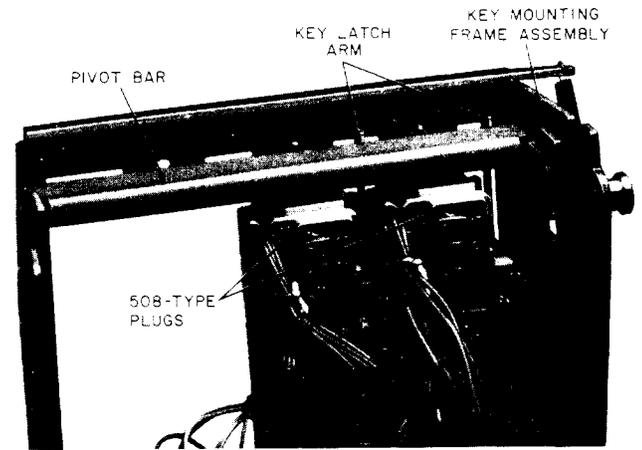

Fig. 29—Rear View of Pivot Bar (Current Production Set Equipped With 635-Type Keys)
- (1) Check that key latch arm is properly seated in the pivot bar (Fig. 29 and 30).
- (2) Adjustment of the key can be made by loosening the mounting screws and shifting the key toward the front of set so that there is no play between the latch arm and pivot bar when a key is operated.